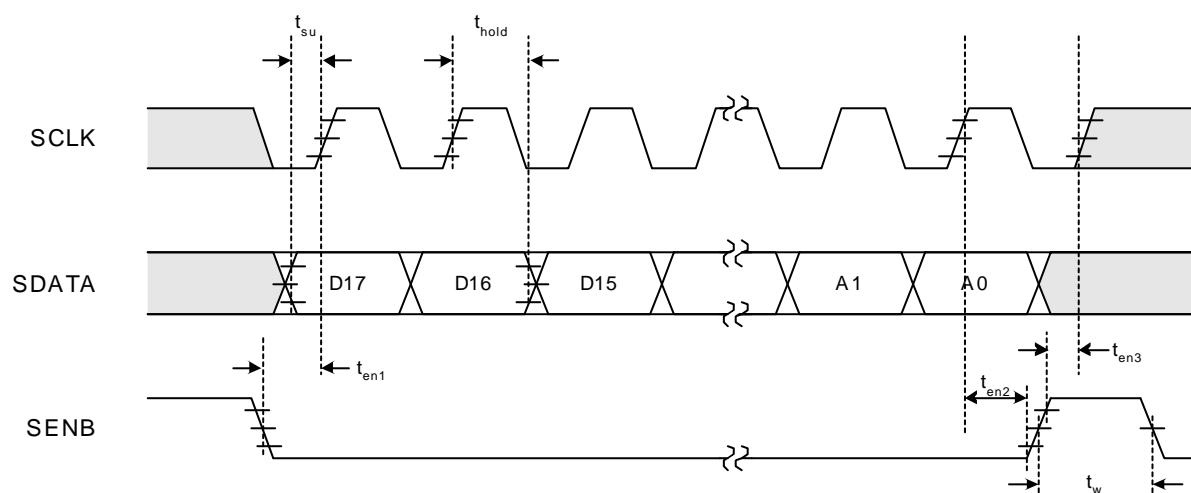
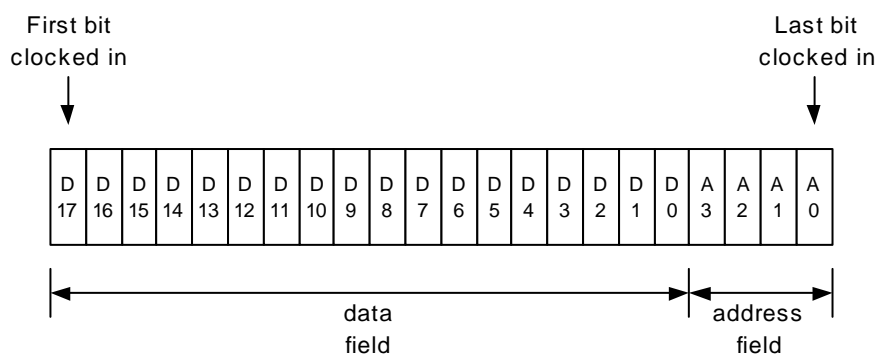

Figure 2. Serial Interface Timing Diagram
Figure 3. Serial Word Format
2. Timing is not referenced to 50% level of the waveform. See Figure 2.
A timing diagram for the serial interface is shown in Figure 2 on page 7. Figure 3 on page 7 shows the format of the serial word.